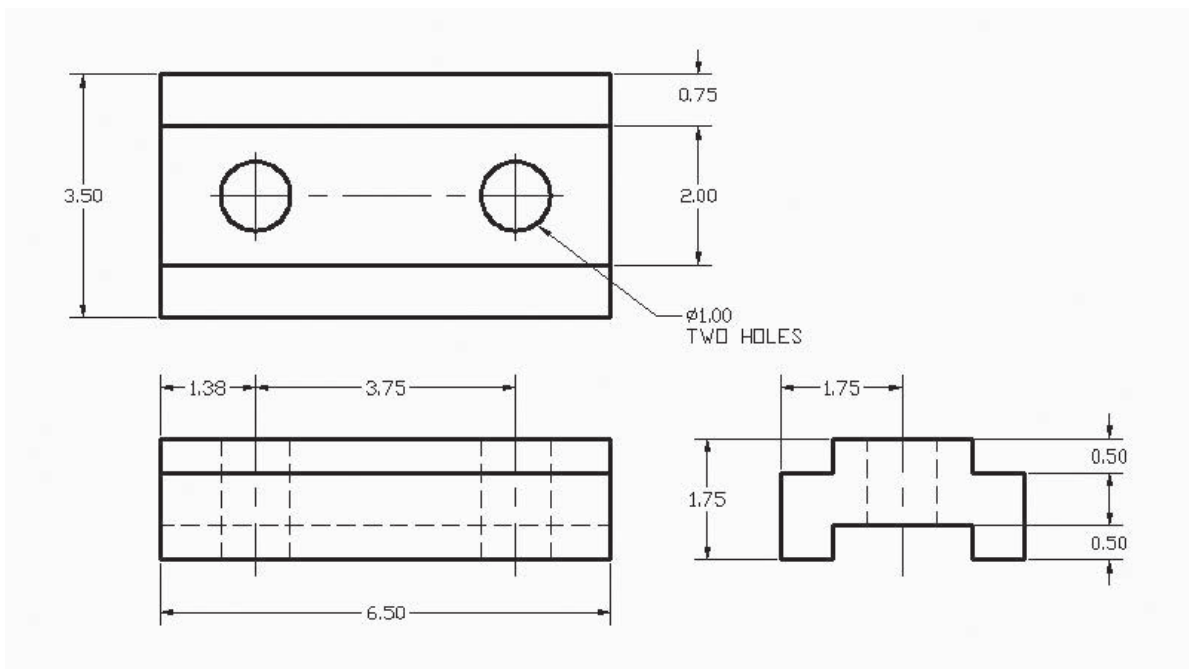

Fig. 38-18
2. The engineer also needs an isometric drawing of the slide shown in Fig. 38-18 for the same milling machine setup. This one, however, does not need to be dimensioned. Save the drawing as **ch38slide.dwg**.